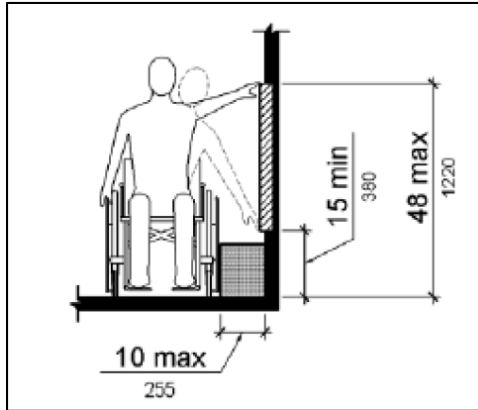

Figure 15 – Push Button Horizontal Reach and Mounting Height
- Horizontal distances from the push button face to the edge of the clear space extension do not exceed 10 in (see **Figure 15**)
- Push button mounting heights do not exceed 4 ft. above the finish surface (see **Figure 15**)